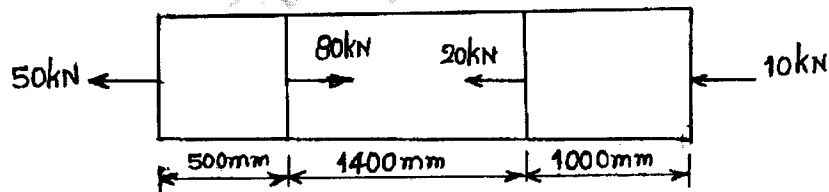

Fig.Q.1(b)
- b. A brass bar having cross-sectional area  $300\text{mm}^2$  is subjected to axial forces as shown in Fig.Q.1(b). Find the total elongation of the bar.  $E = 84 \text{ GPa}$ . (10 Marks)